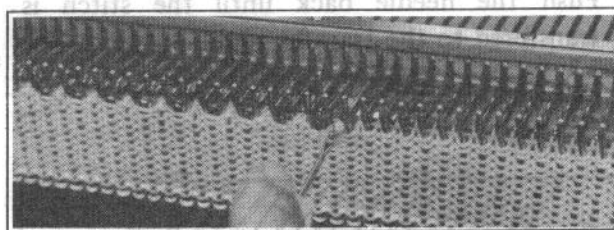

Fig. 3
4. Using one eye Transfer Tool, transfer the loops of selected needles to the next needles. (Fig. 3)